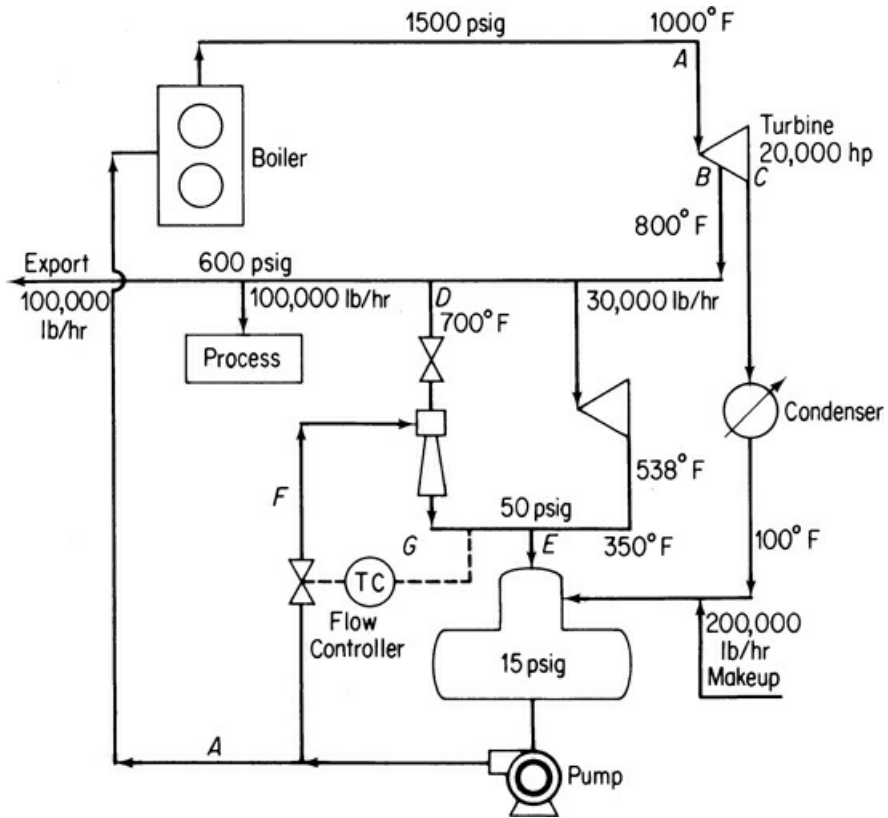

Figure P14.3
- 14.3** The stream flows for a plant are shown in Figure P14.3. Write the material and energy balances for the system and calculate the unknown quantities in the diagram (A to F). There are two main levels of stream flow: 600 psig and 50 psig. Use the steam tables for the enthalpies.